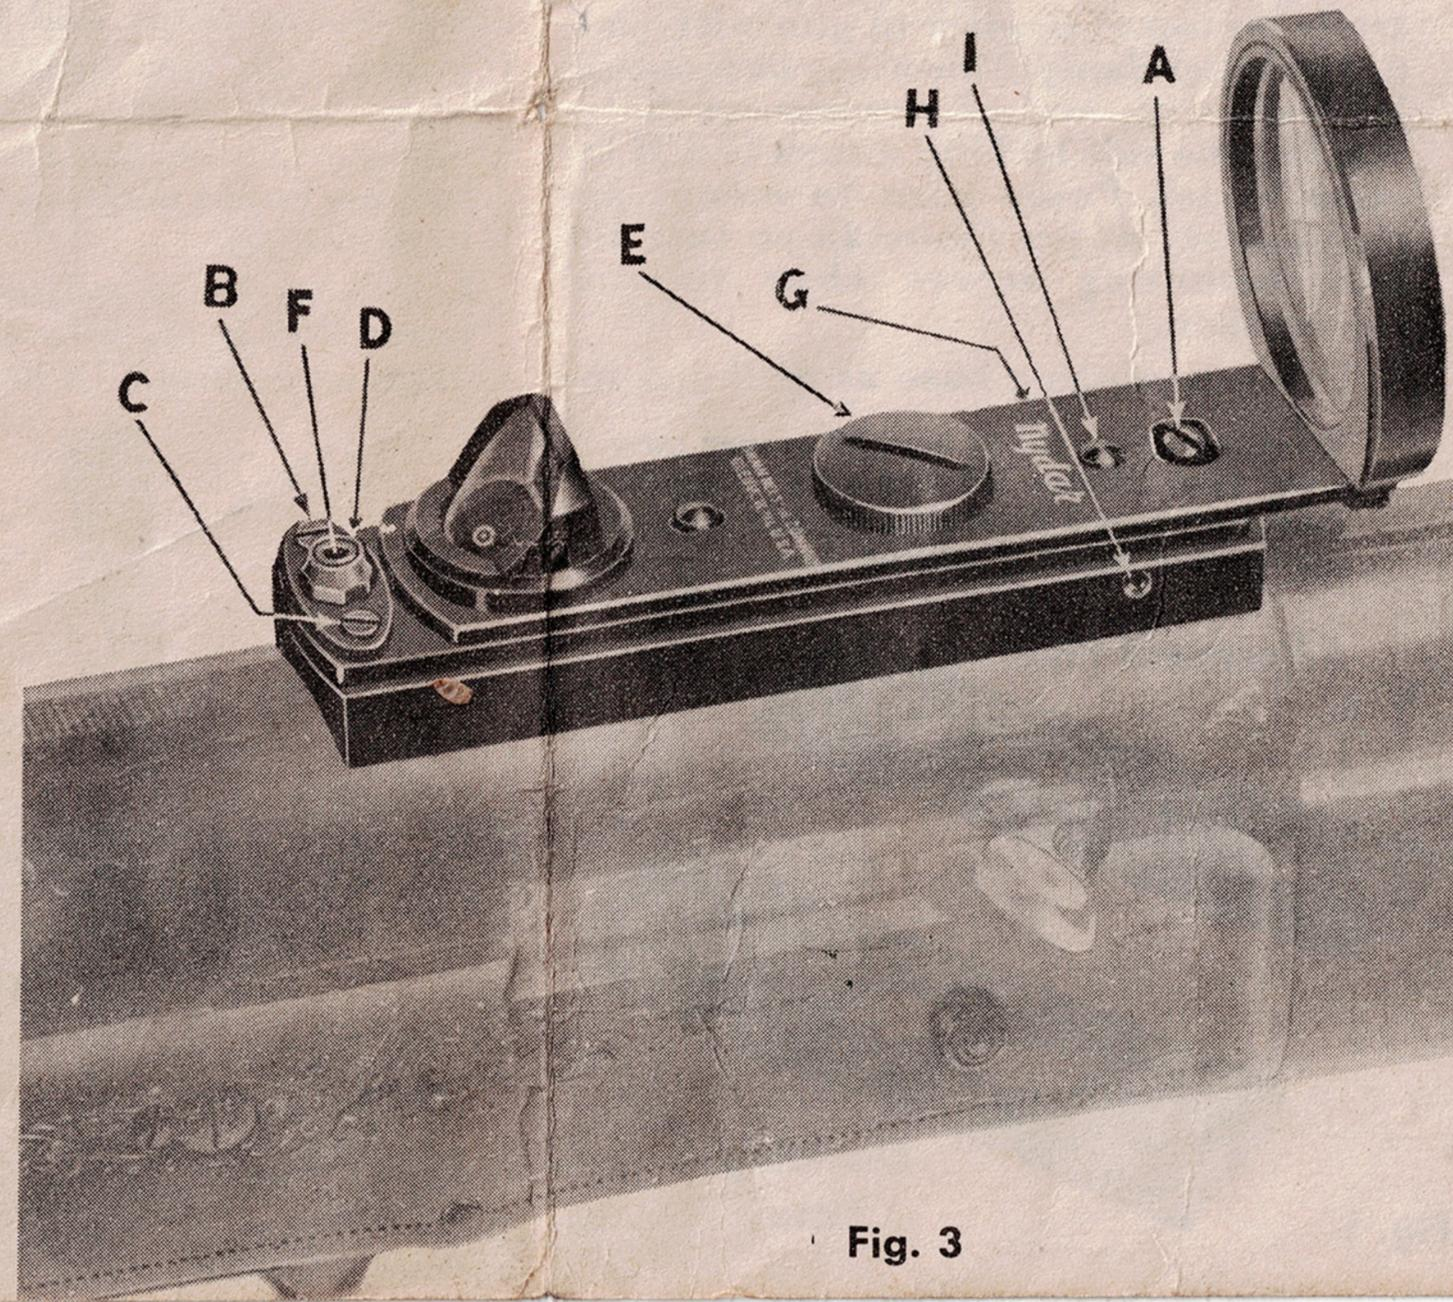

Fig. 3
1. Lightly loosen screw "A". Back out locknut "D" and screws "B" and "C" approximately 3 turns. See figure 3.